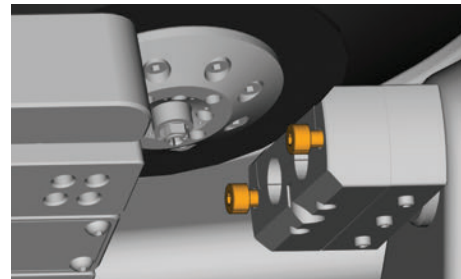

FIG. 20: IMMOBILIZING THE ABUTMENT HOLDER
- M2. Loosen the screws of the abutment holder (↖ Fig. 20) and remove it.